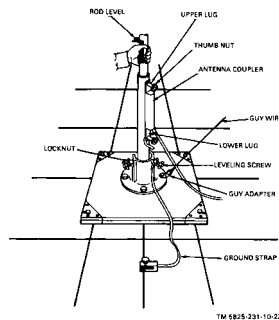

Figure 2-13. Antenna base connections.
**2-13. Antenna Ground Rod, Ground Strap and Coupler Installation (figure 2-13)**
(1) Slide the lower connection lug in place.
(2) With a twisting motion, position the upper lug and firmly tighten the thumbnut on the antenna. Leave the lower connection loose.
(3) Examine the lugs on the grounding strap and clean them if required. Place the end